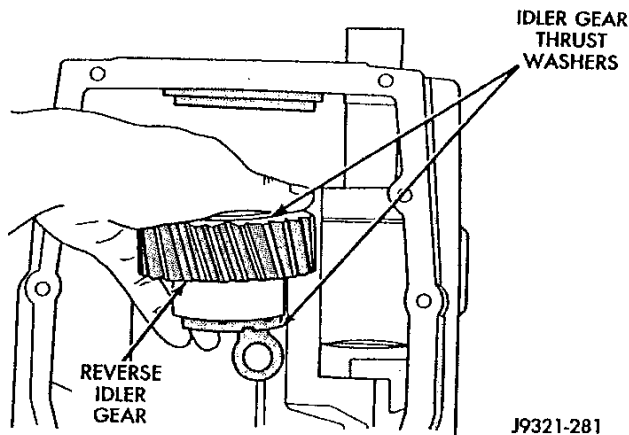

Fig. 17 Reverse Idler Gear Removal (New Style Gear Case)
(4) Remove idler gear, thrust washers, bearings and spacer as assembly (Fig. 17).